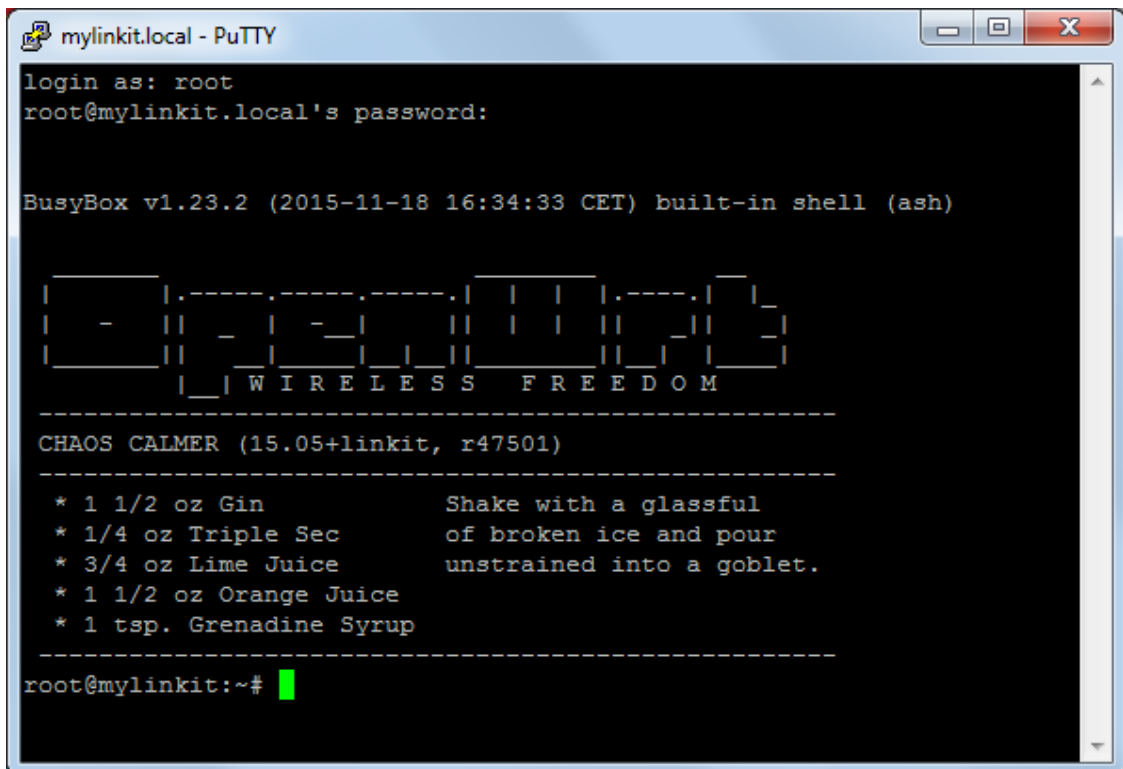

Figure 21 System Console
- 4) In the PuTTY terminal window that opens, log in with username **root** and enter the password you set previously in the Web UI, after log in you should see a screen similar to Figure 21.